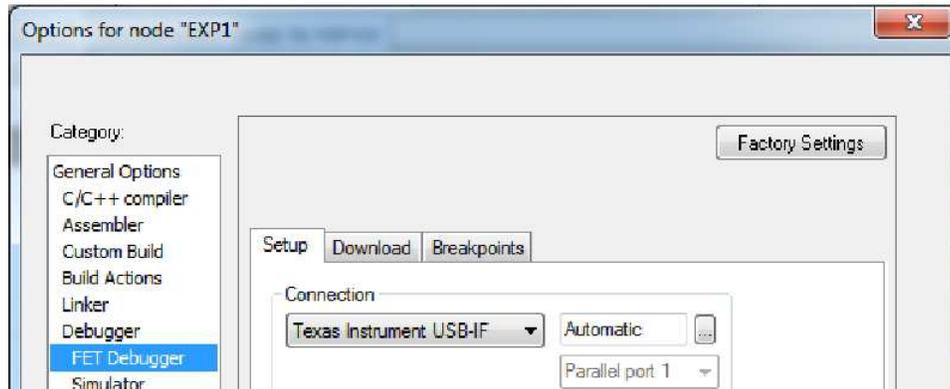

Figure 1.10: Options for EXP1.
7. Make sure that you have your project name selected in the project tree view on the left side of your screen. Click Project > Options Now, under Category: click Debugger > Setup and choose FET Debugger in the Driver dropdown menu. Depending on the options you chose when you installed your IDE you may or may not have the Driver dropdown menu. It is important that you make sure you have selected Texas Instrument USB-IF in the dropdown menu. The rest of the options are chosen for you. DO NOT click OK yet. See the illustration in Figure 1.10.